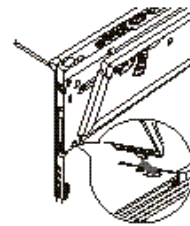

Figure 5-1 Docking Hook Insertion into Detachable Bay Slots
3. While keeping firm hold of your notebook with one hand, take the Detachable Bay in the other hand and insert the metal Docking Hooks on the Detachable Bay into the Detachable Bay Slots on the bottom of your notebook. (See Figure 5-1.)
3. While keeping a firm hold of your notebook with one hand, take the Detachable Bay in the other hand and insert the metal Docking Hooks on the Detachable Bay into the Detachable Bay Slots on the bottom of your notebook. (See Figure 5-1.)